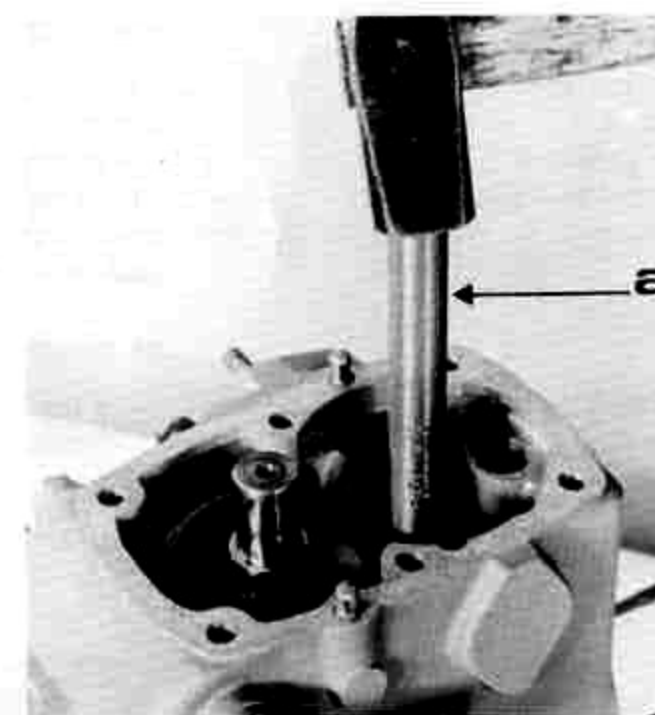

Fig. B 15
- if required, remove the camshaft needle bearing using the drift E 671 M 13 – Fig. B 15.